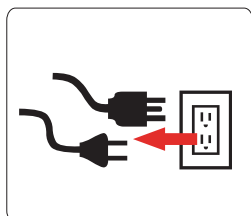

Fig 14
- All electrical loads **MUST** be disconnected from the generator. Never start or stop the engine with electrical devices plugged in to the receptacles. (See fig 14)